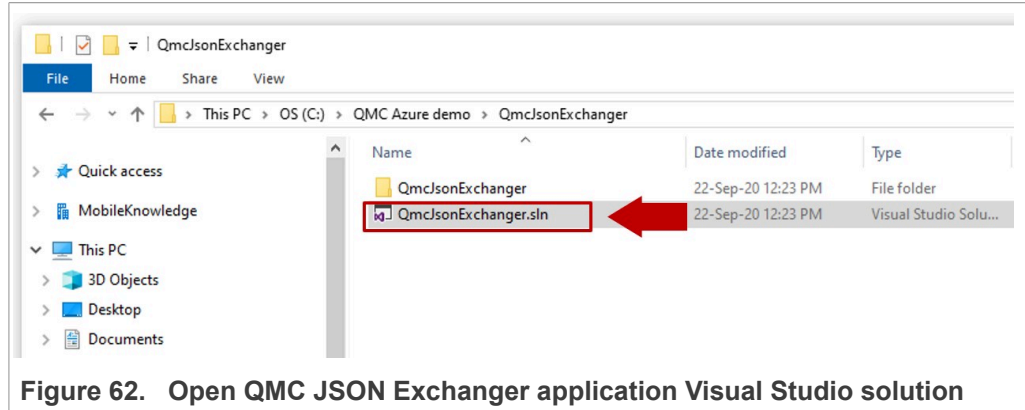

Figure 62. Open QMC JSON Exchanger application Visual Studio solution
- 2. Unzip the project **QmcJsonExchanger** and double click in the Visual Studio solution file, called *QmcJsonExchanger.sln*, as shown in Figure 62: